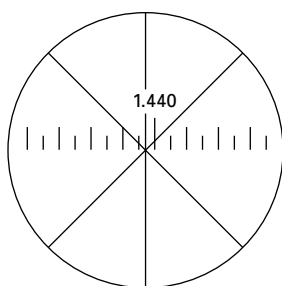

FIGURE 29.4 A refractive index of 1.4397.
8. Press and hold the scale/sample field switch. The refractive index scale should appear (Fig. 29.4). Read the uppermost scale, the refractive index, to four decimal places (five digits here). (If your model has two fields, and the refractive index is *always* visible, just read it.)